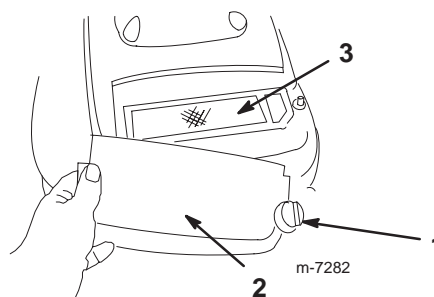

Figure 20
3. Remove the screw that secures the air cleaner cover (Fig. 20).
4. Remove the cover and clean it thoroughly (Fig. 20).
6. Remove the foam pre-cleaner and wash it with a mild detergent and water, then blot it dry (Fig. 20).